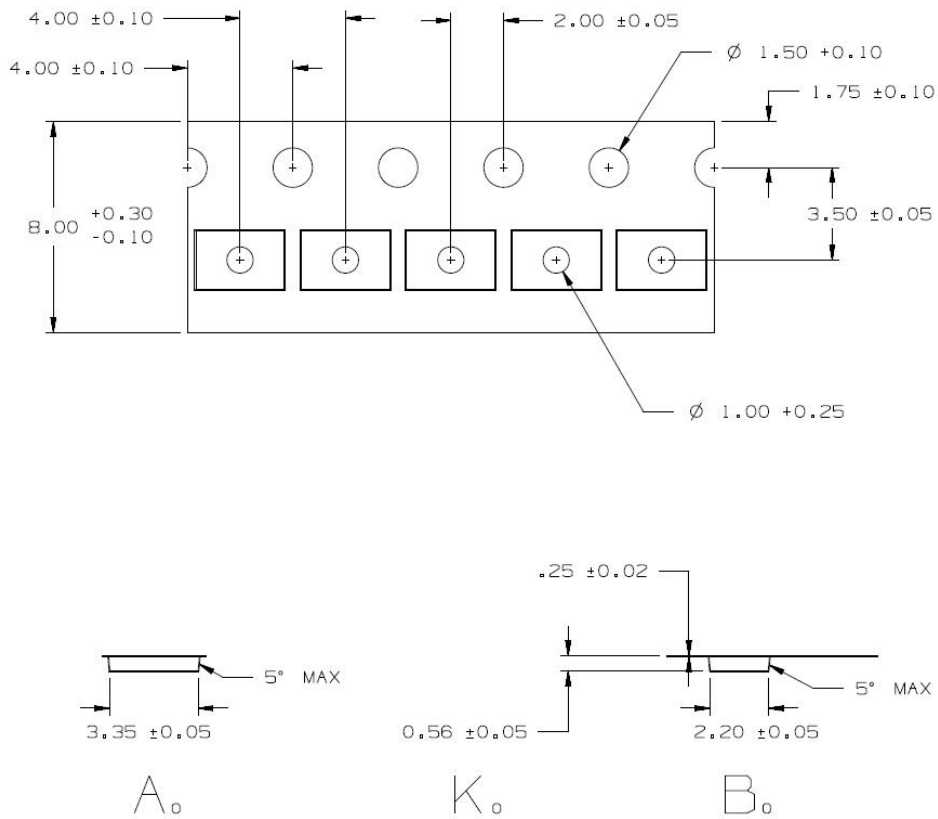

Figure 13. EA2M–SWC Tape & Reel
13. EA2M–SWC8A1G: These chips are contained in a Tape and Reel. The mechanical specifications of the trays are shown in Figure 13. Dimensions are in mm.